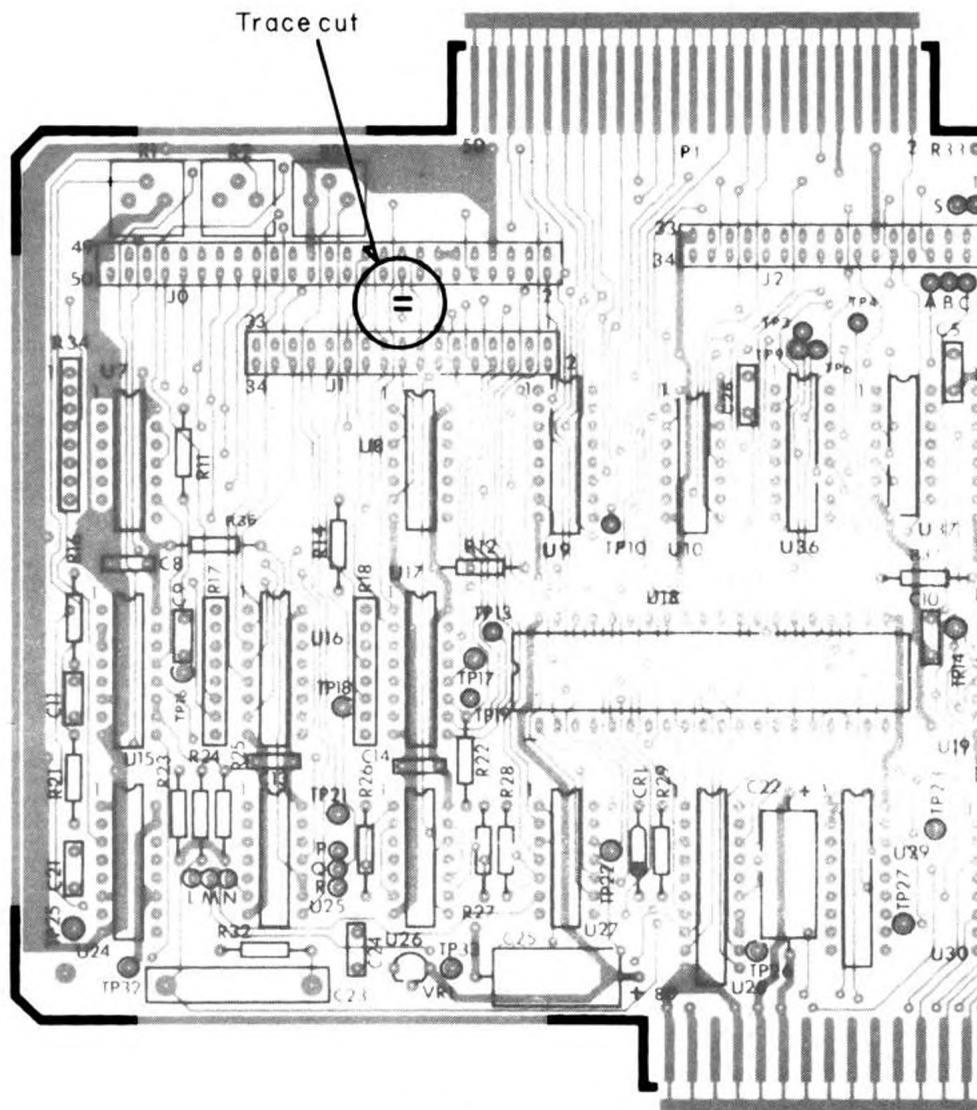

Figure 2
1. On the componet side, cut the trace that goes to pin 18 of J0 (the 50 position pin header connector) RIGHT AT the connector so that the feedthru can still be used on the reverse side to go to the external head load signal (Refer to Figure 2).